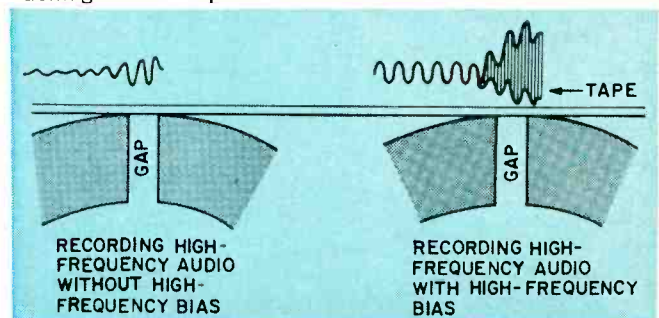

Fig. 2—Another function of high-frequency bias is to improve high-frequency response, even with a wider recording gap.
2. It enables a wider recording gap to be used than would be possible without this high-frequency bias. This achieves deeper penetration of the magnetization into the tape, particularly at high frequencies where gap dimensions are important (Fig. 2).